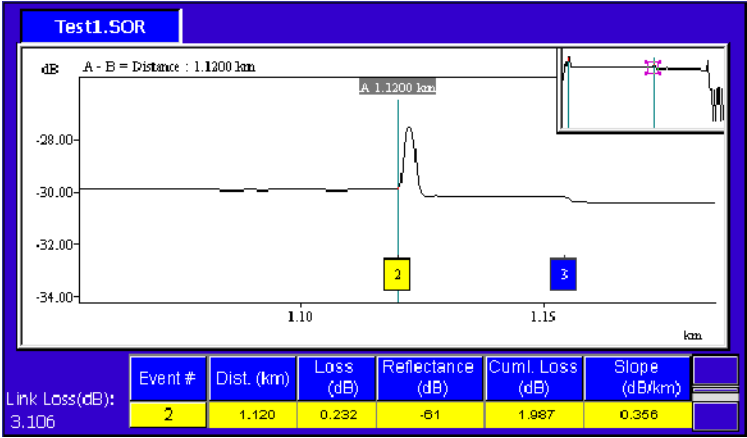

Figure 2-9: Event 2 is an FC regular connector
- Event 2, shown in Figure 2-9, is an FC regular connector. It has fairly large amounts of both loss and reflection.